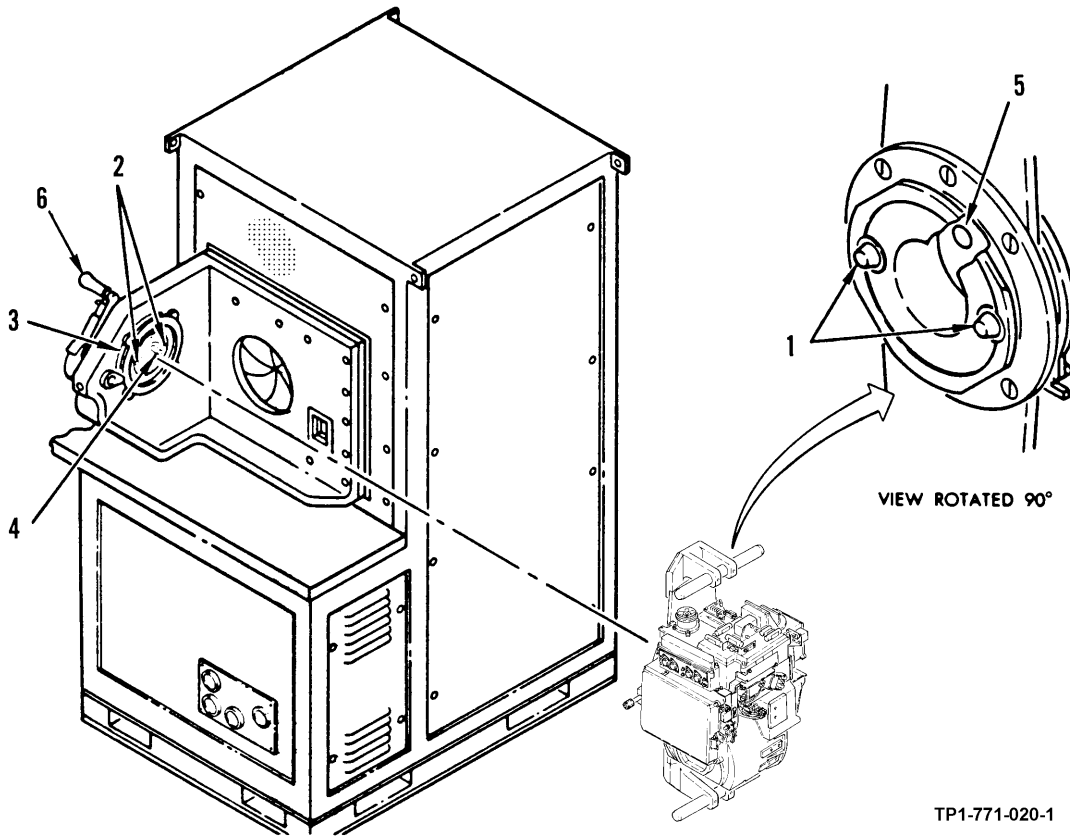

Figure 2-14. Mounting TADS NSA and Insert/Adapter to Nightside Test Bench
- (7) Push sensor mount handle to unlock (away from operator) position. Lift insert/adapter and TADS NSA by the handles of insert/adapter and align numbered adapter guide pins (1, figure 2-14) with corresponding numbered holes (2) on sensor mount assembly (3). Ensure that guide pin (4) on sensor mount assembly is aligned with hole (5) on insert/ adapter.